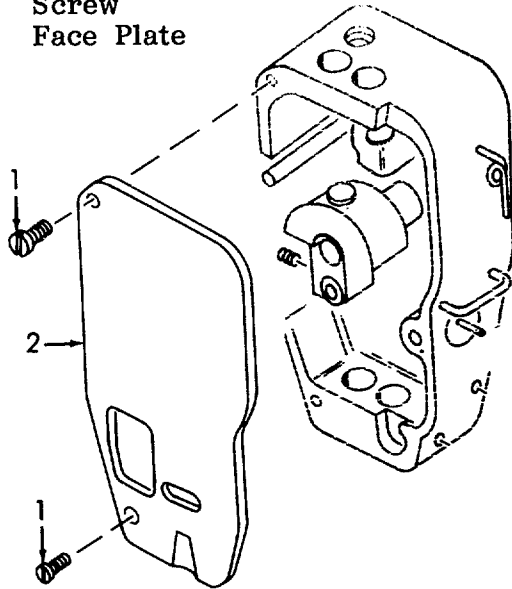

Figure 6-91. Face Plate, Removal.
a. Removal (Refer to Figures 6-91 and 6-92).